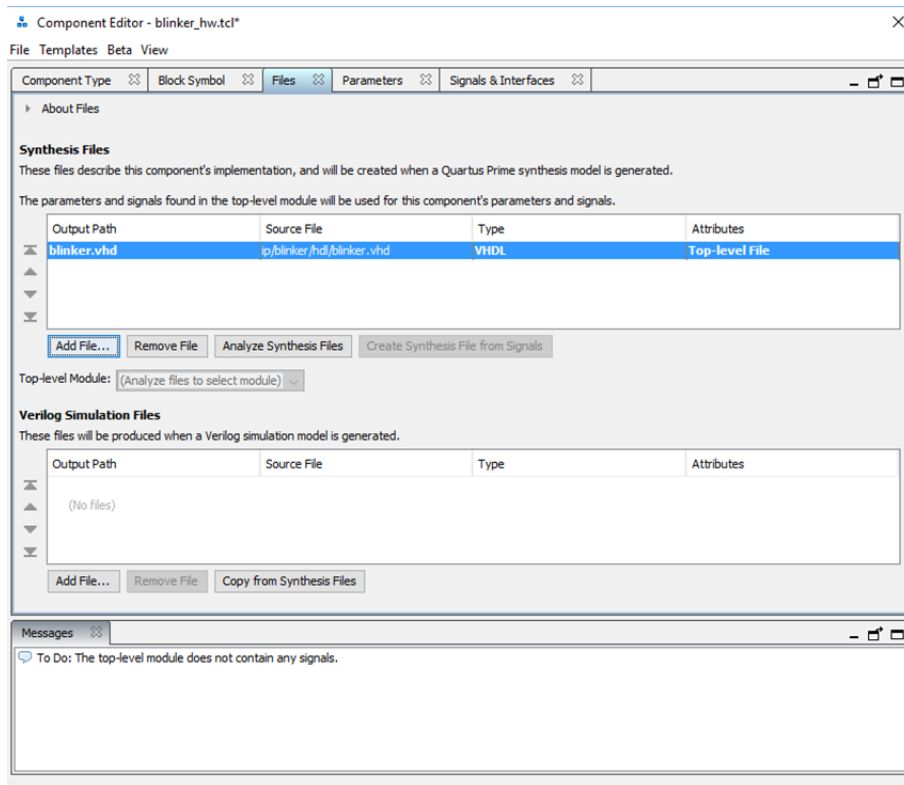

Fig. 90: Inclusion of blinker.vhd file for the component.
- Go to the “Files” tab and click the “+” button under “Synthesis Files” to add a new file to this component. Choose the “blinker.vhd” file (see Fig. 90).